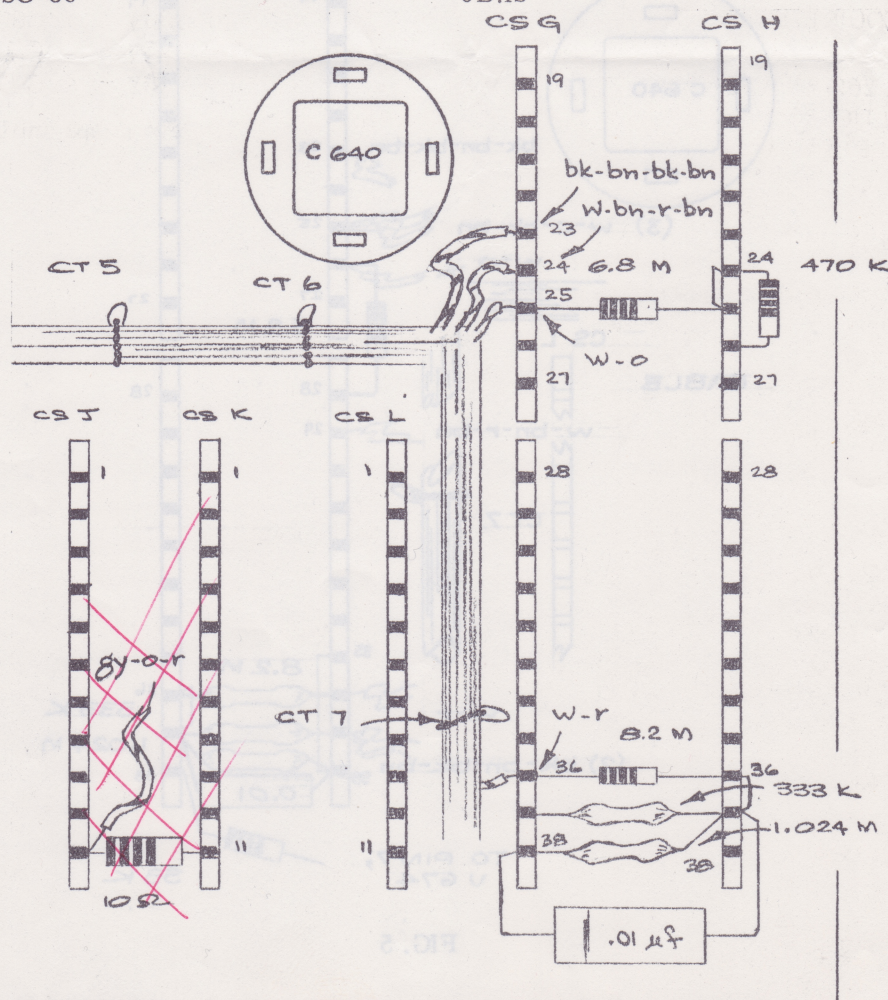

FIG. 6
1. Remove the following components and wires (see Fig. 6 for ceramic strip locations):
2. Install the following components and wires, as indicated in Fig. 6:
1. Remove the following components and wires (see Fig.6 for ceramic strip locations).
3. Install the following components and wires, as indicated in Fig.6:
REFER TO FIGURE 6